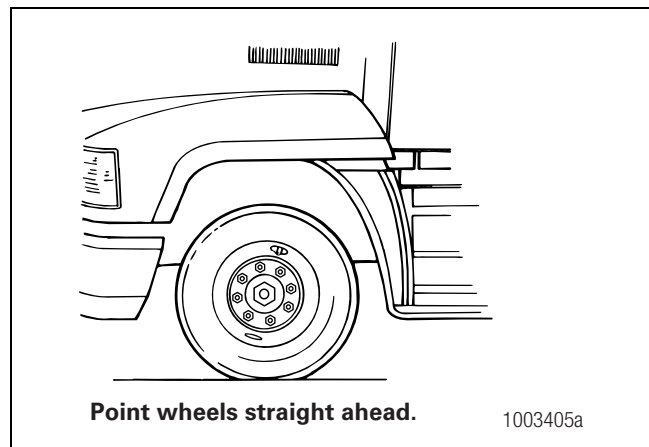

Figure 5.24
1. Turn the vehicle wheels straight ahead. Figure 5.24.